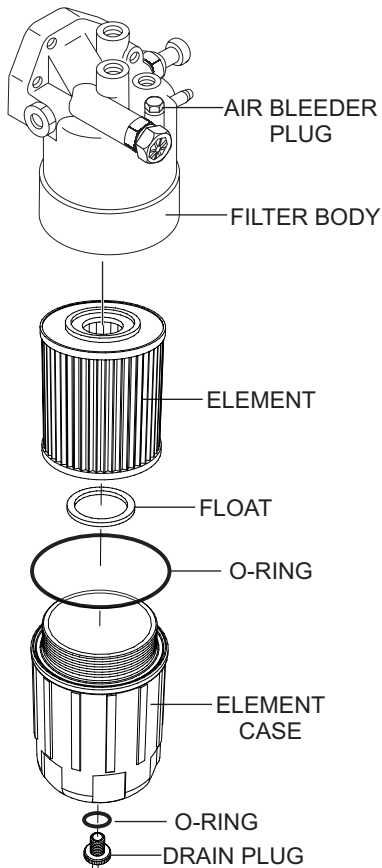

Figure 73. Fuel Filter Replacement
1. Using a **filter wrench**, remove the **element case** from the **fuel filter body** (Figure 73).
2. Wipe the inside of the **filter body** (Figure 73) with a clean cloth to remove any foreign matter or debris that may have accumulated.